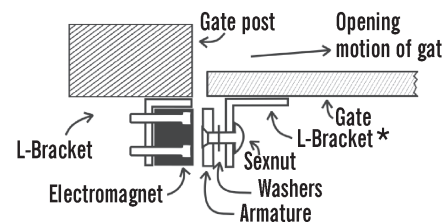

FIG. 3 - Installation on a double-swing gate
- Double-swing gate** (fig. 3) — Two gates swing in the same direction when activated. The electromagnet is fixed to the free end of one gate, and the armature is fixed to the free end of the other via a Z-bracket. **IMPORTANT:**